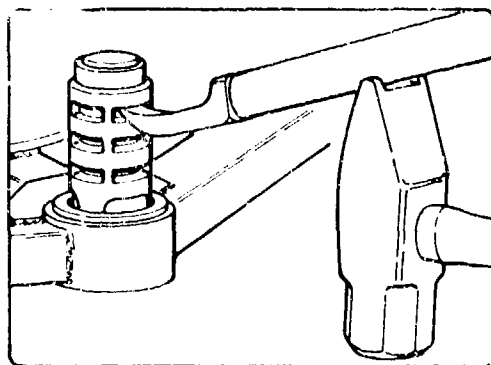

Figure 4-13. Extracting the firing stake.
a. To march order the firing platform, elevate the tube to 800 mils elevation. Traverse the howitzer so that the cannoneers have access to the stakes in front of the platform. Using the stake extractor and the sledge hammer as a fulcrum, extract the front stakes as shown in figure 4-13. Traverse the howitzer and repeat the procedure until all stakes have been removed. Unlock the hand brakes on the wheels. Place actuator crank on actuator gear shaft and turn handle clockwise to raise platform. Lock wheels with hand brakes and install suspension locking pins. Depress the tube and secure travel lock in locked position.